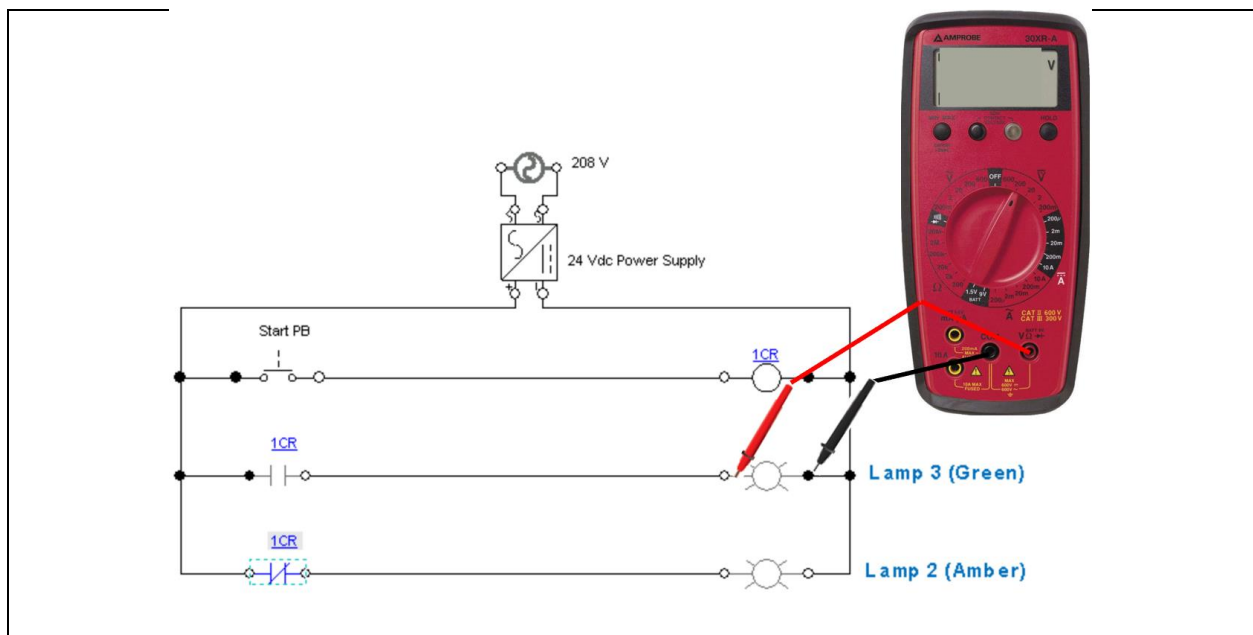

Figure 6. Circuit for Question 3 and 4.
3. What should the voltmeter read in Figure 6, if the StartPB is actuated?
4. What should the voltmeter read in Figure 6, if the Start PB is not actuated?